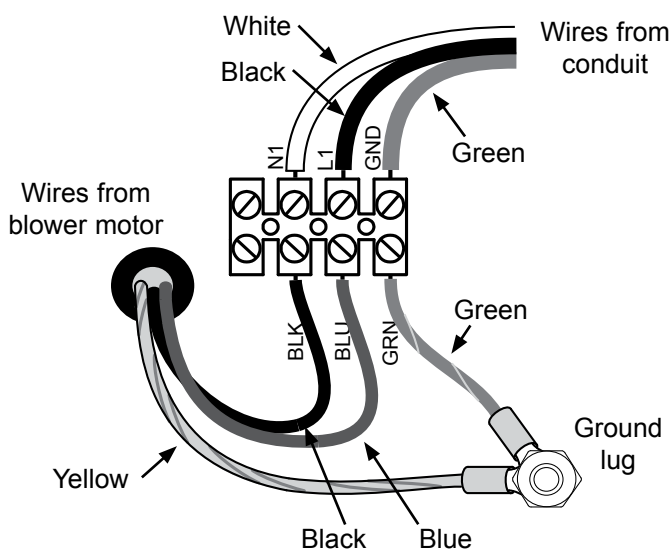

Figure 2:
10. Check the wires from the blower motor to make sure that they are firmly attached to the terminal according to Figure 2 below. Reconnect any wires that are loose. Make sure all terminal screws are tight. Also make sure the nut on the ground lug is tight.